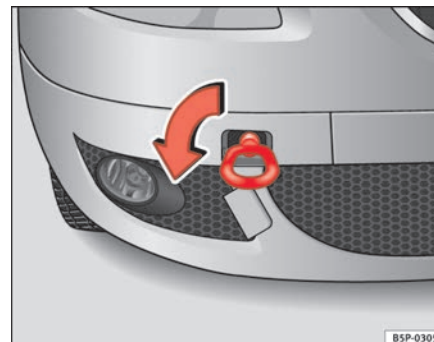
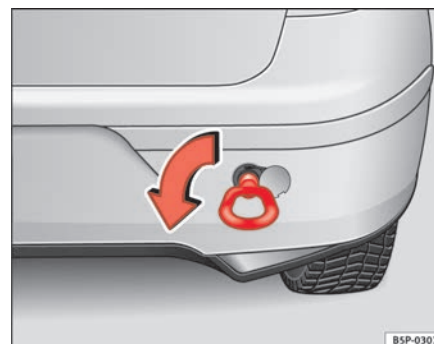

Fig. 203 The front right section of the vehicle: Fitting the front towing eye
Fig. 204 Fitting the towing eye to the rear of the vehicle
- Screw the towing eye as shown by arrow *anti-clockwise* to the limit position in the front ⇒ page 267, fig. 203 or rear ⇒ page 267, fig. 204 threaded hole. ■